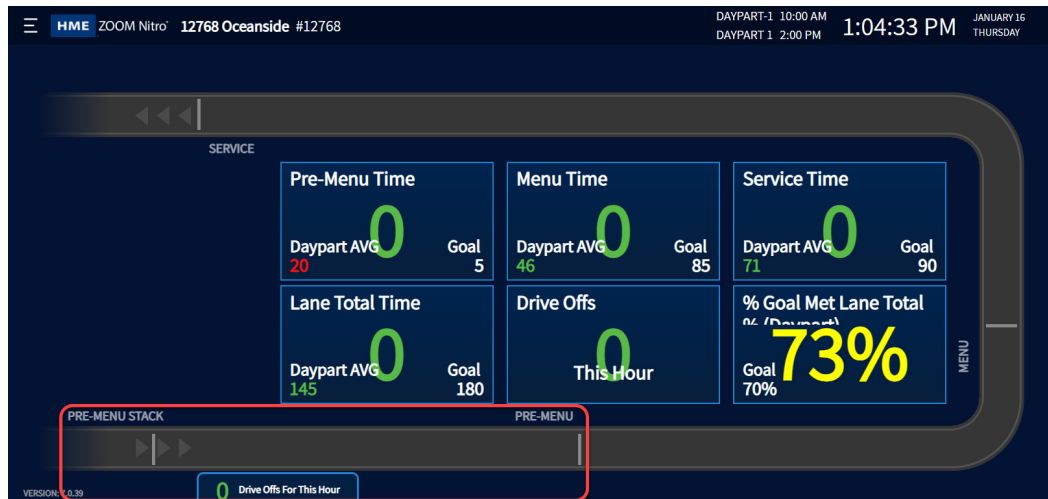

Fig. 38
7. Fig. 38 shows where these enabled options are displayed on the dashboard.